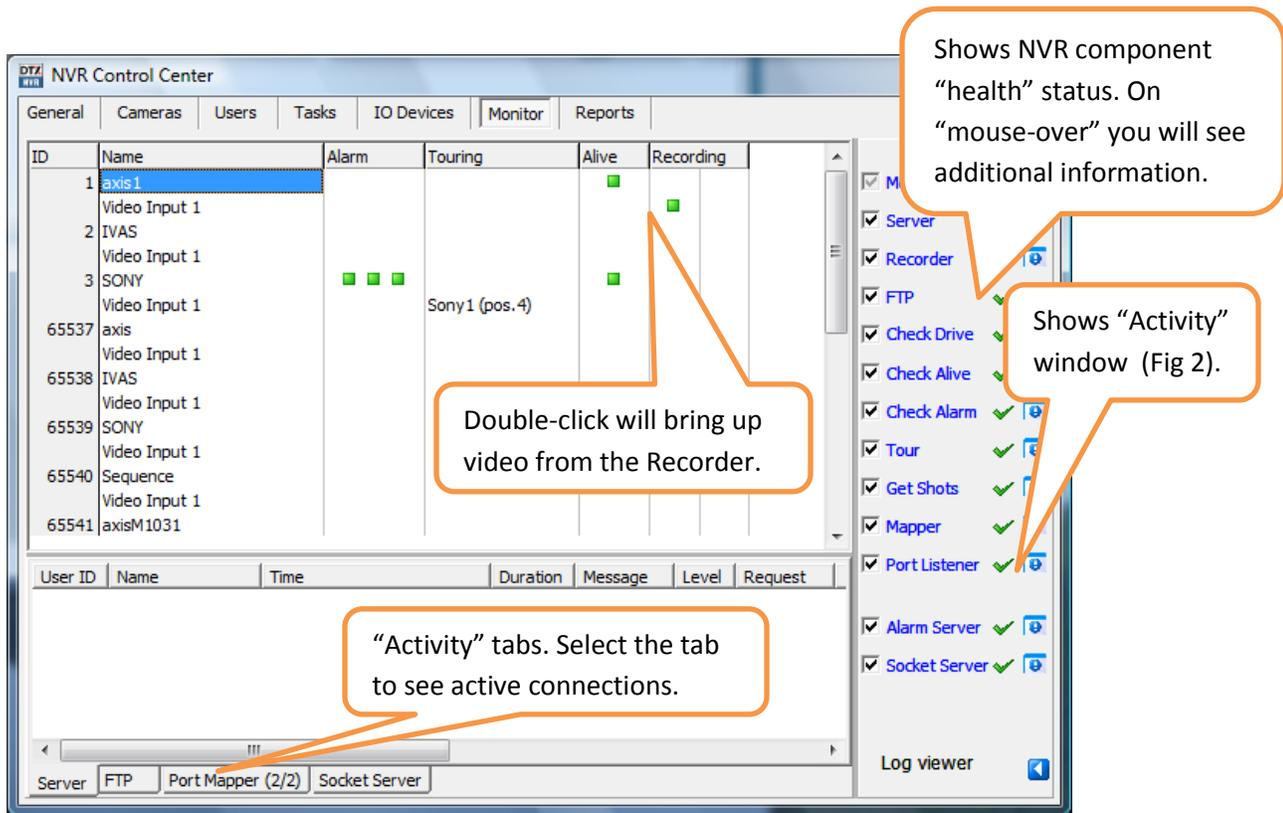

Fig 1. NVR Control Center — Monitor tab (Get NVR components health status).
- The NVR components icons are not visible anymore in the system tray. The components health status users can get in the Monitor tab of the NVR Control Center (See Fig 1).